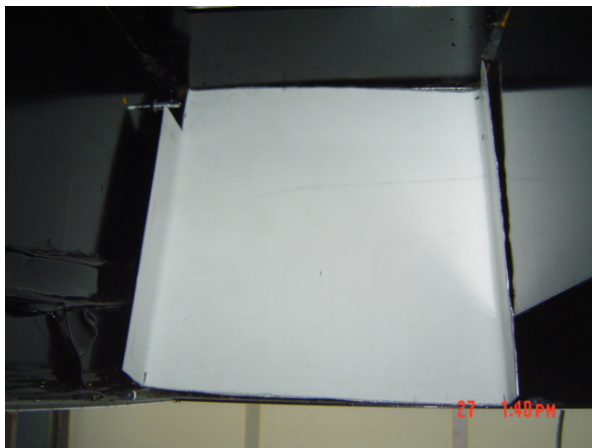

Fig 3
Step 3 Place the supplied heat shield in the front of the compartment to protect the bulkhead cover, setting flat against the metal frame. See figure 3.